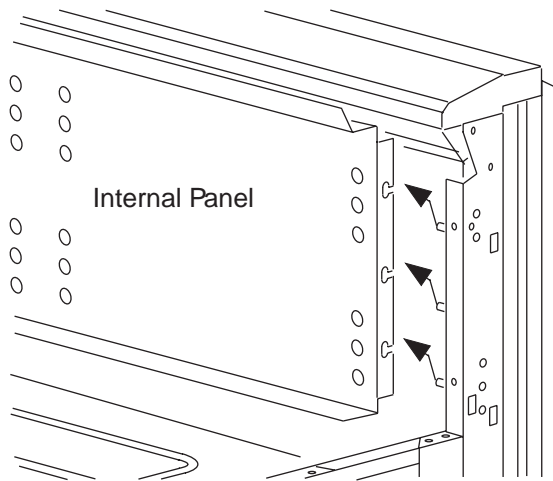

Figure 3. Remove Internal Panel
- 2** Remove the internal panel from the front side of the wall case, or both sides of the island case by sliding the panel up and out as shown in Figure 3.